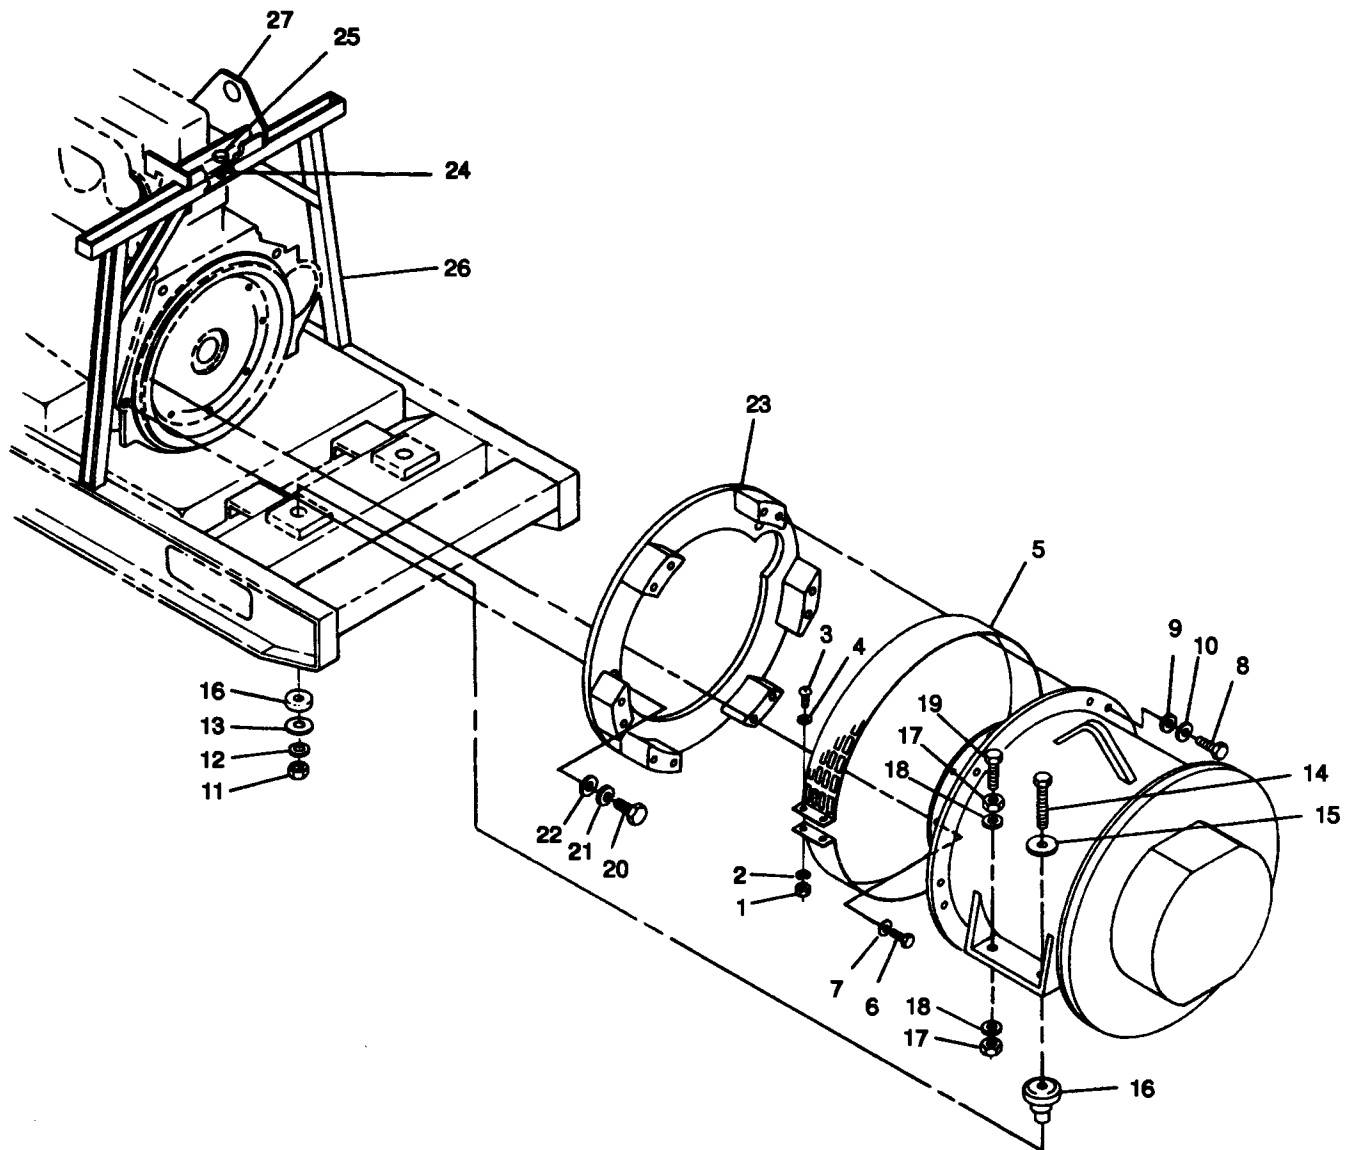

FIGURE 4-15. Generator Assembly Removal
- t. Unwrap main generator cables from droop current transformer (17) and current transformer (18).
- u. Pull main generator cables (13) and exciter leads (15) through bottom of output box assembly.
- v. Loosen nut (24, FIGURE 4-15), adjust bolt (25) to contact support frame (26), and tighten nut (24).
- y. Remove nuts (1, FIGURE 4-15), lockwashers (2), screws (3), washers (4), and screen/cover (5) from generator case.
- z. Remove bolts (6) and washers (7) securing generator drive disc to engine flywheel.
- aa. Remove bolts (8), washers (9), and lockwashers (10) securing generator to engine flywheel housing adapter (23).
- ab. Remove nuts (11), washers (12), snubbing washers (13), bolts (14), and Belleville washers (15) securing generator to skid base.
- ad. Remove generator shock mounts (16) from skid base.
- ae. Remove nuts (17), washers (18), and bolts (19) from generator mounts.
- af. Remove bolts (20), lockwashers (21), washers (22), and flywheel housing adapter (23) from engine.
- a. Install flywheel housing adapter (23, FIGURE 4-15) on engine with bolts (20), backwashes (21), and washers (22). Torque bolts (20) to 120 ft-lbs (163 Nm).
- b. Position generator shock mounts (16) in skid base.
- c. Install bolts (19), washers (18), and nuts (17) on generator mounts.